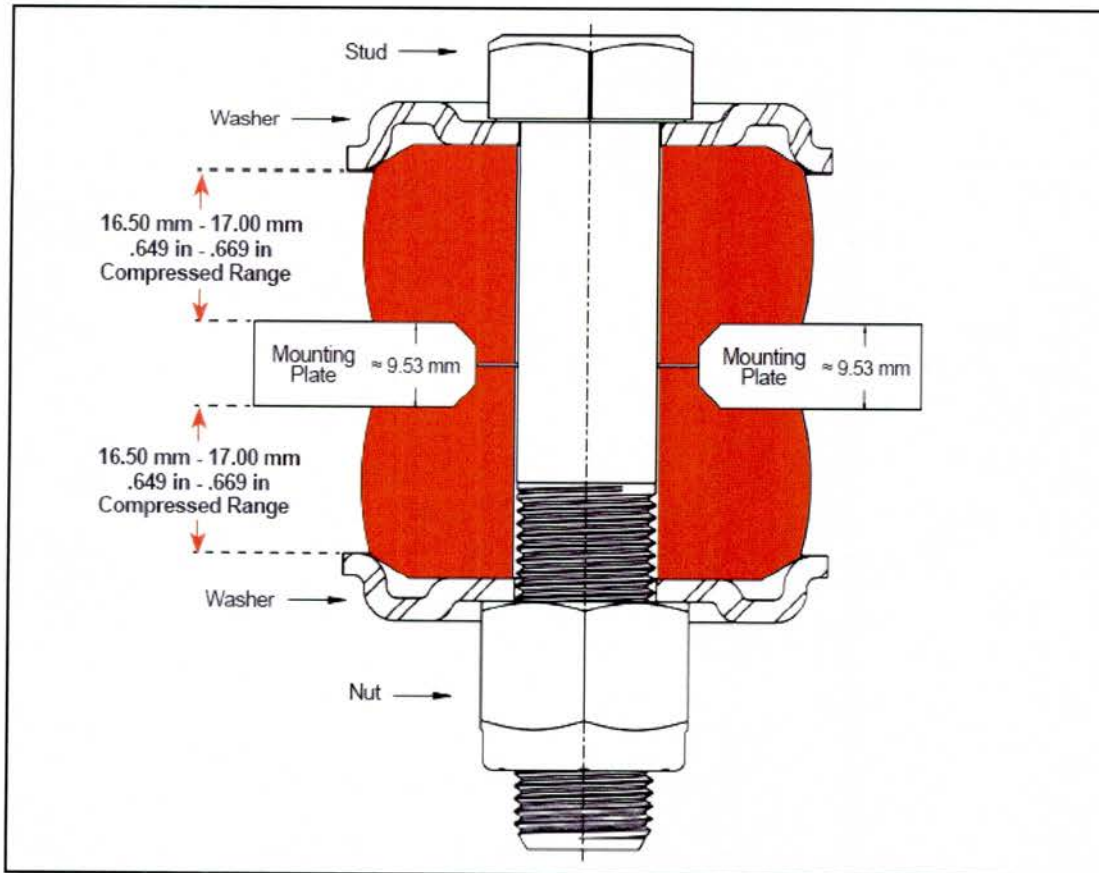

Figure 3.
11. Tighten the lock nut until compressed bushing height falls between the range 0.649-0.669 inch / 16.50-17.00mm. (refer to Figure 3).
15. Tighten the lock nut until compressed bushing height falls between the range 0.649-0.669 inch / 16.50-17.00mm. (refer to Figure 3).